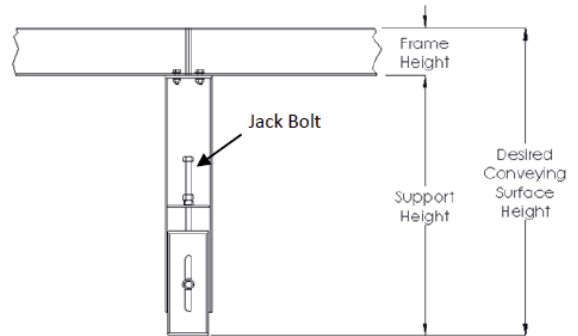

Figure 1 – Support Height Adjustment
- Set the support height using the adjustable jack bolt – see *Figure 1*. To adjust, either screw or unscrew the jack bolt. This will raise or lower the support.